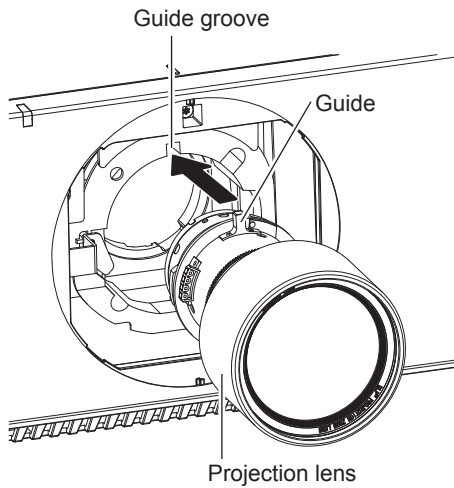

Fig. 1
- 1) Remove the Lens Mount Cover, and align the projection lens guide to the guide groove of the projector and insert to the end. (Fig. 1)